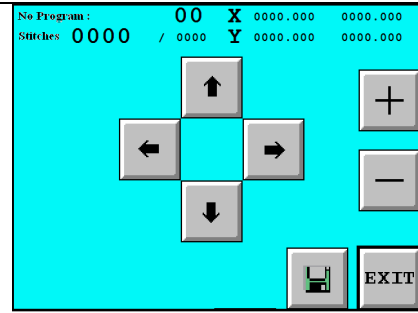

Fig.18
18.2.1 Press the button “MODIFY PROGRAM” , the screen as fig. 18
18.2.4 Press “ENTER” to get back to the previous screen (Fig.18).